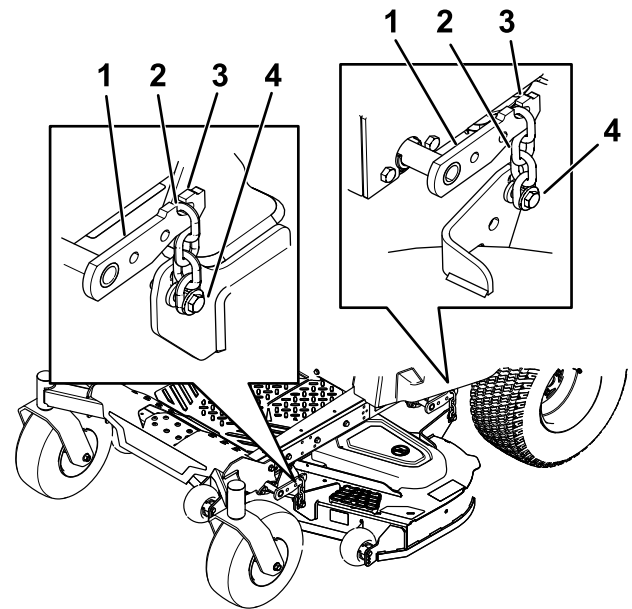

Figure 63
6. Ensure that there is tension on all 4 chains (Figure 63).
7. Tighten the 4 adjustment bolts (Figure 63).
5. Loosen the adjustment bolts on all 4 corners so that the deck is sitting securely on all 4 blocks (Figure 63).